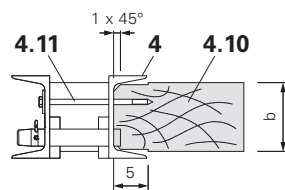

Fig. C1.15
The timber ends (4.10) are adapted to the U120 profile of the strongback (4) through chamfering and notching. For fixing with wood screws 8 x 160 and washers (4.11), use the drilled holes in the strongback web. (Fig. C1.15)